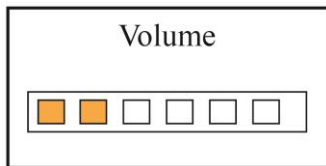

Figure 4.10B Volume setup
- Volume: To set the sound volume (including alert sound, pulse beep sound and key click sound), 6 levels sound volume for optional, the factory default is level 3, as shown in figure 4.10B.